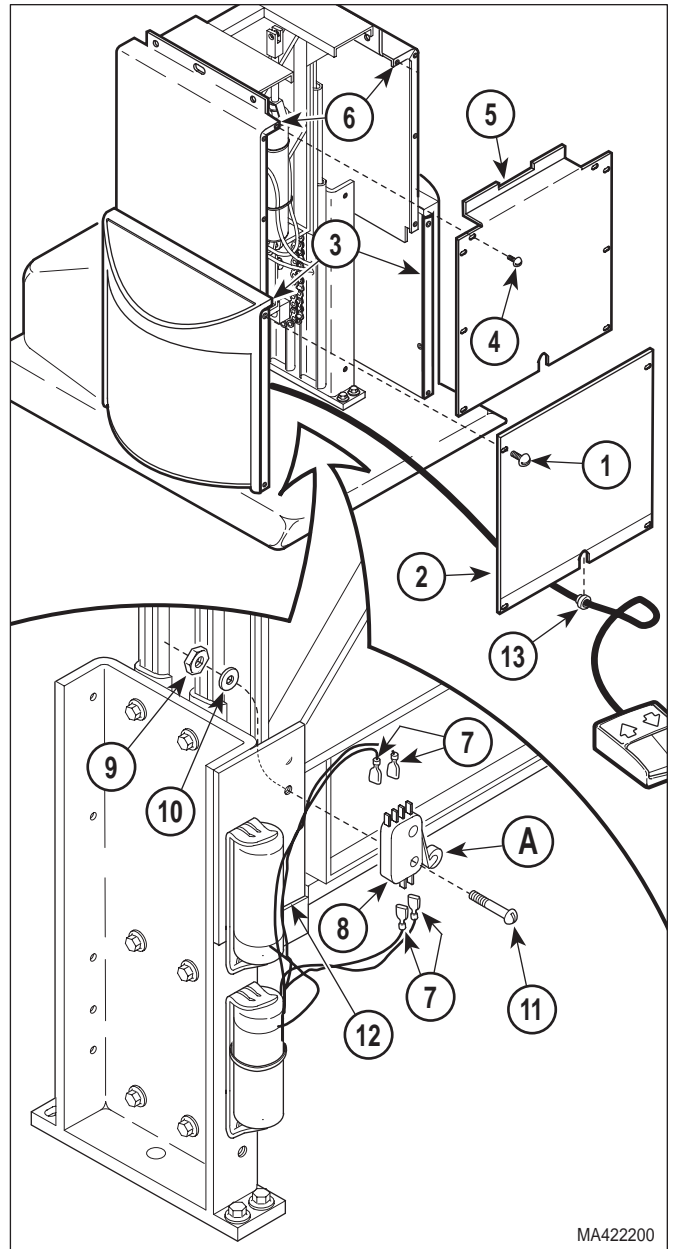

Figure 4-27. Base Down Limit Switch Removal / Installation / Adjustment
- (1) Unplug power cord from wall outlet.
- (2) Remove four screws (1, Figure 4-27) and front outer shroud (2) from left and right hand outer shrouds (3).
- (3) Remove eight screws (4) and front inner shroud (5) from left and right hand inner shrouds (6).
- (4) Tag and disconnect four wires (7) from terminals of base down limit switch (8).
- (5) Remove two nuts (9), lockwashers (10), screws (11), and base down limit switch (8) from auto return bracket (12).